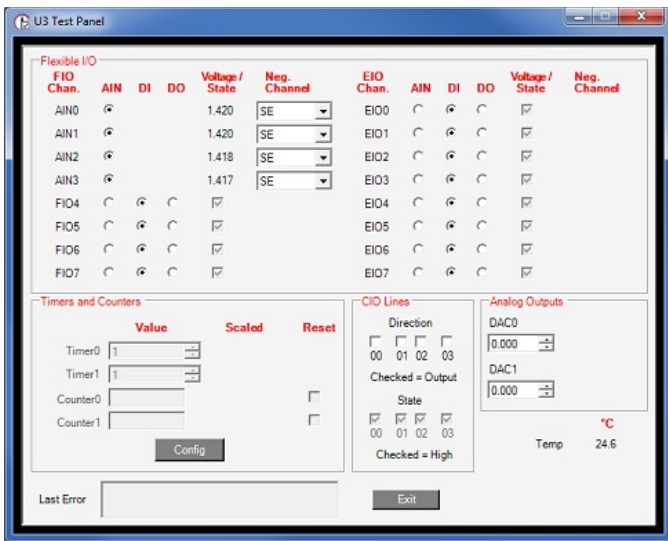

Figure 1-3. LJControlPanel U3 Test Window
- Test: Opens the window shown in Figure 1-3.
Figure 1-3 shows the test window for a U3 device. This window continuously (once per second) writes to and reads from the selected LabJack.